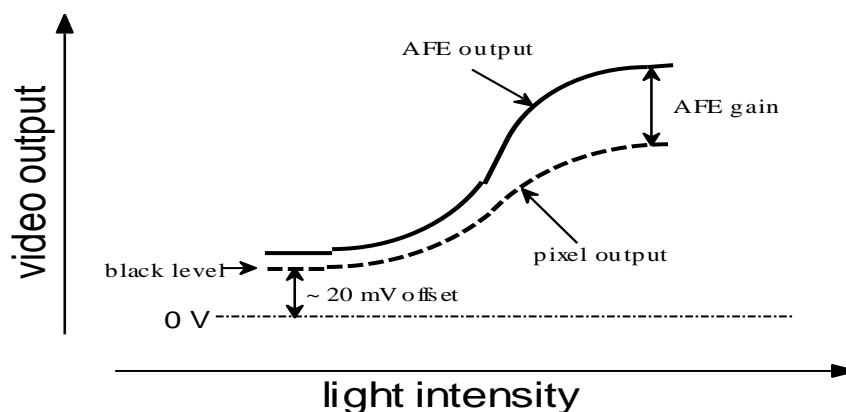

Figure 2.20 – AFE gain and offset
The camera has dual analog signal processors (or Analog Front End – AFE), one per channel. It features one dual processor, each containing a differential input sample-and-hold amplifier (SHA), digitally controlled variable gain amplifier (VGA), black level clamp and a 14-bit ADC. The programmable internal AFE registers include independent gain and black level adjustment. There are 1024 possible gain levels (**gcode** 0 to 1023) and 1024 offset (clamp) levels (**ocode** 0 to 1023). Figure 2.20 shows the relationship between the video signal output level and gain/offset. Theoretically, the black level should reside at 0 volts and the gain changes should only lead to increasing the amplitude of the video signal. Since the camera has two separate video outputs coming out of the CCD, there is always some offset misbalance between the video outputs. Thus, changing the AFE gain leads to a change in the offset level and to a further misbalance between the two video signals. To correct the balance between two signals for a particular gain, the user should always adjust the offset for each output – refer to the Camera Configuration section. The overall camera gain can be calculated using formula 2.3, where Fixed Gain (FG) is user selectable (- 3dB, 0, 3 dB, or 6dB).